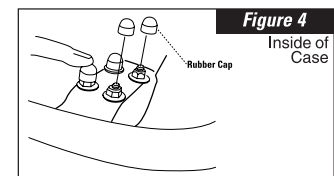

Figure 4
4. On the inside of the box tray, cover the exposed nuts with the supplied rubber caps (see **Figure 4**).